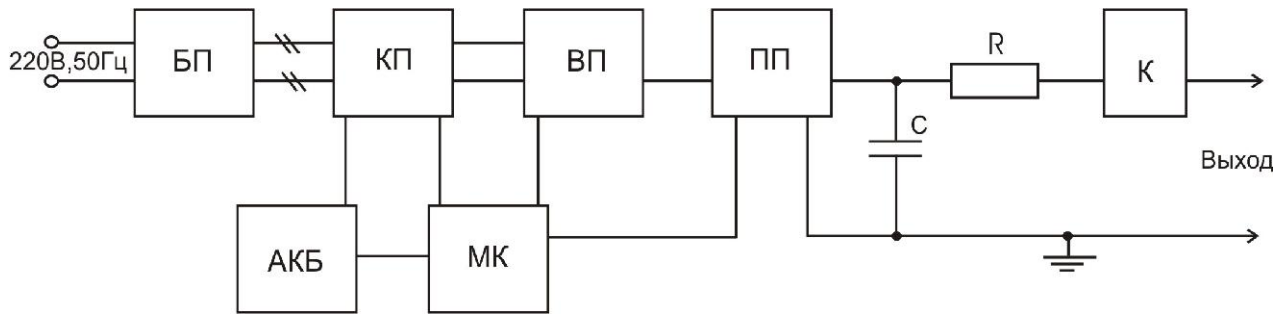

Fig. 2 The functional chart of the test generator IGE 15.2a
4.1 The functional chart of the test generator IGE 15.2a is shown in Figure 2.